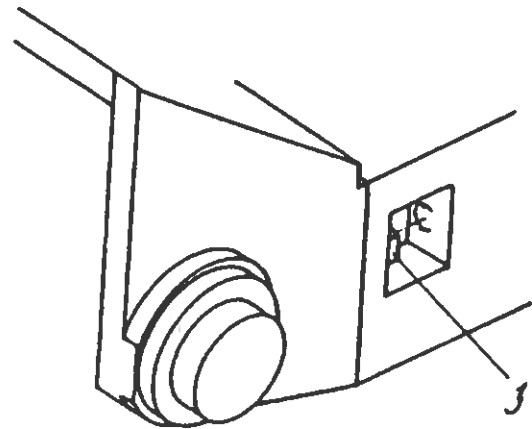

Figure 4 - 14
4.6.10 Regulating wheel's swivel angle (Figure 4 – 15/ 4 – 16)